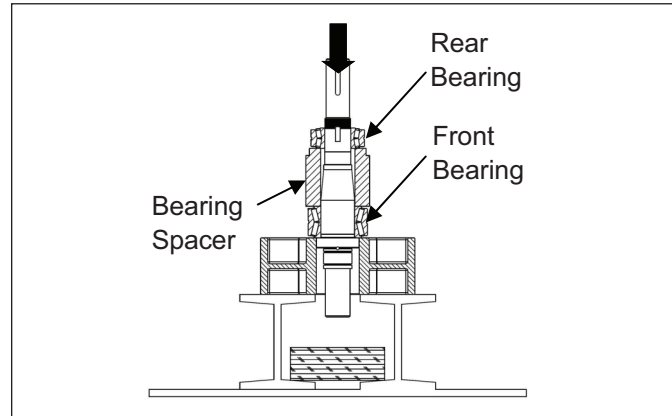

Figure 48. Removing Bearings and Sleeve from Shaft
6. Using a press and a V-block, remove the front and rear bearings along with the bearing spacer. To prevent damage to the shafts make sure that both ends are protected (Figure 48). Reference Table 6 for the required force (in tons) needed to press the bearings off the shafts.